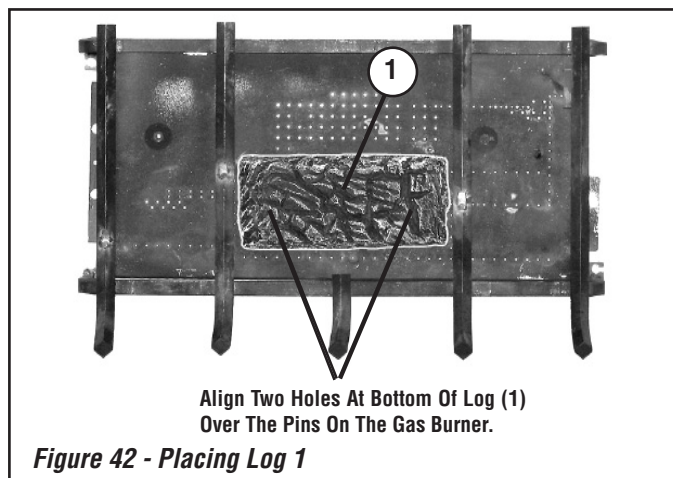

Figure 42 - Placing Log 1
Step 4. Position the individual logs as shown in **Figures 42 through 46**. Logs should be placed in the order shown. **Place logs 2 and 3 against the pins on the grate, NOT over them.**